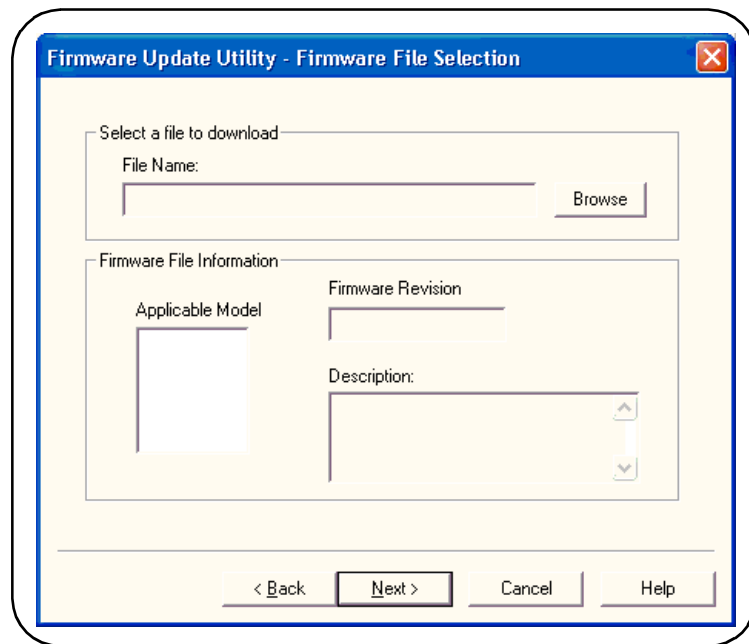

Figure A-1. Firmware Update Utility File Selection Window.
1. From the directory where the update utility was installed, start the utility by selecting **FirmwareUpdateUtility.exe**. Select 'Next' until the window shown in Figure A-1 appears.